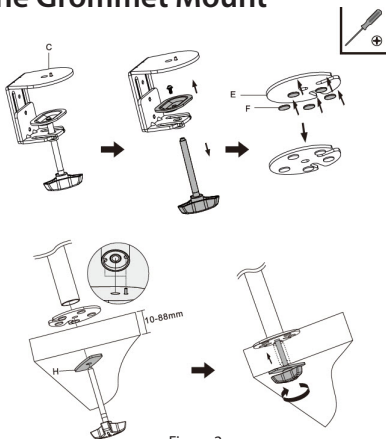

Figure 2
- Insert the end of a **Phillips Head Screwdriver** through the top of the **Desk Clamp (C)** and remove the **Screw** that fastens **Pressure Plate** to the **Hand Screw**. (Figure 2)
- Remove the **Pressure Plate** and **Washer**, and remove the **Hand Screw** from the **Desk Clamp (C)**.
3. Slide the **Grommet Clamp Plate (H)** over the end of the **Hand Screw**, completing the **Grommet Hand Screw**.
4. Affix the **Rubber Pads (N)**(x5) to the side of the **Grommet Base Plate (E)** that does not feature the **Peg**.
5. Insert the **Grommet Base Plate Peg**, into the non-threaded hole, located in the base of the **Pole (B)** and push to attach the two pieces, completing the **Grommet Pole Assembly**.